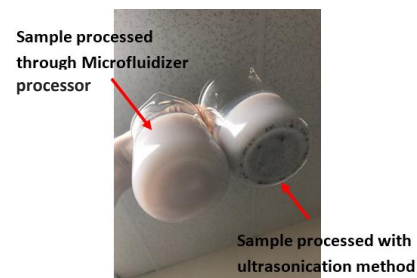

Figure 3 – contamination from ultrasonication processing
- Erosion of the probe, due to the cavitation effect, leads to the liquid being contaminated with metal particles (Fig. 3). This can cause difficulty with downstream processing, not to mention health & safety concerns.